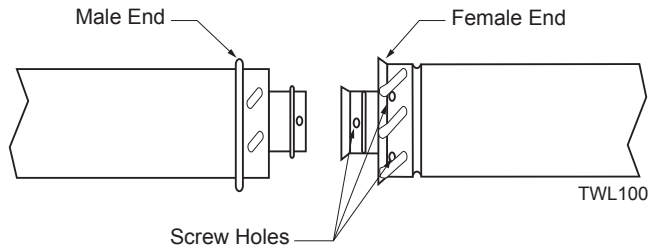

Figure 9 - Twist-lock Pipe Joints
To join twist lock pipes together, simply align the beads of the male end with the grooves of the female end, twisting the pipe until the flange on the female end contacts external flange on the male end. It is recommended that you secure the joints with three (3) sheet metal screws, however, this is not mandatory with twist lock pipe. *Figure 9*